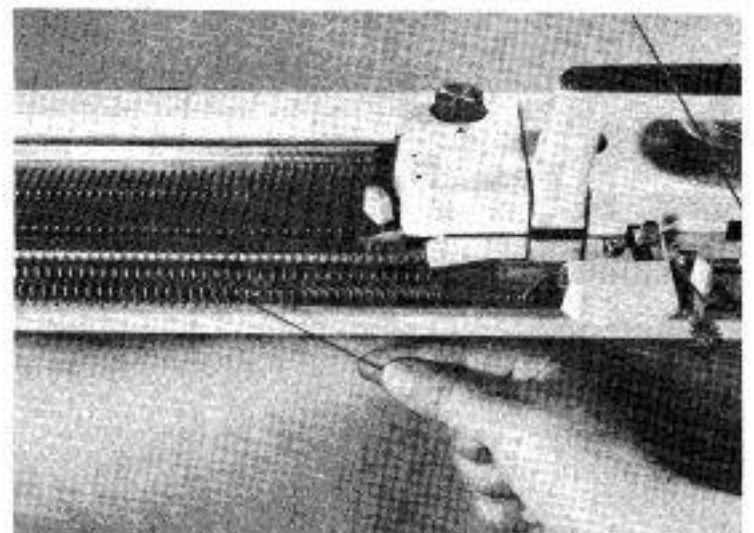

Fig. 33
- m) Pull the loose end of wool gently along the sinkers towards the right until the wool is that as shown in Fig. 33